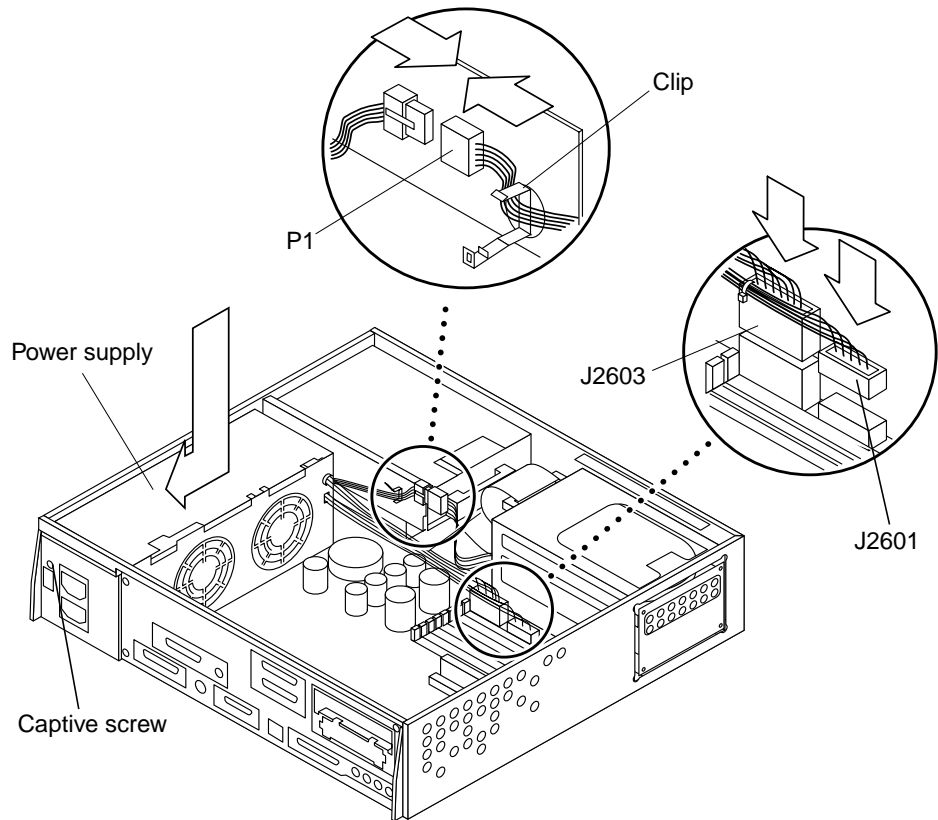

FIGURE 8-3 Securing and Connecting the Power Supply
4. **Connect the power supply as follows (FIGURE 8-3):**